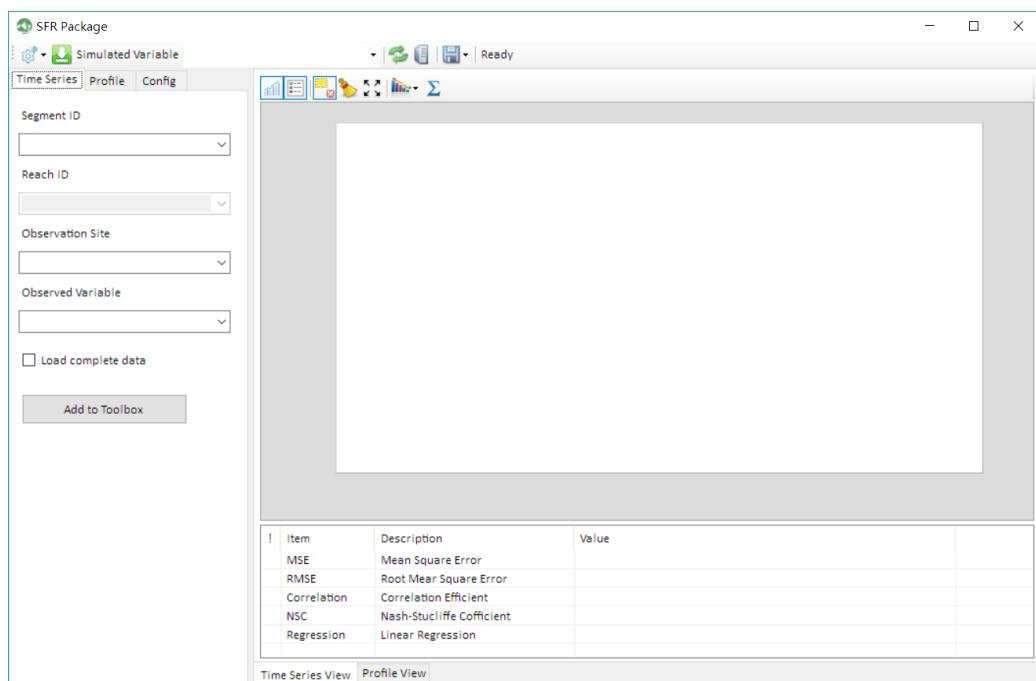

Figure 8-1. The output analysis dialog for SFR package.
- 1) In the Project Explorer, right click on the item SFR Output under the Modflow Output, and select Advanced.... A dialog entitle “SFR Package” is prompted (Figure 8-1).